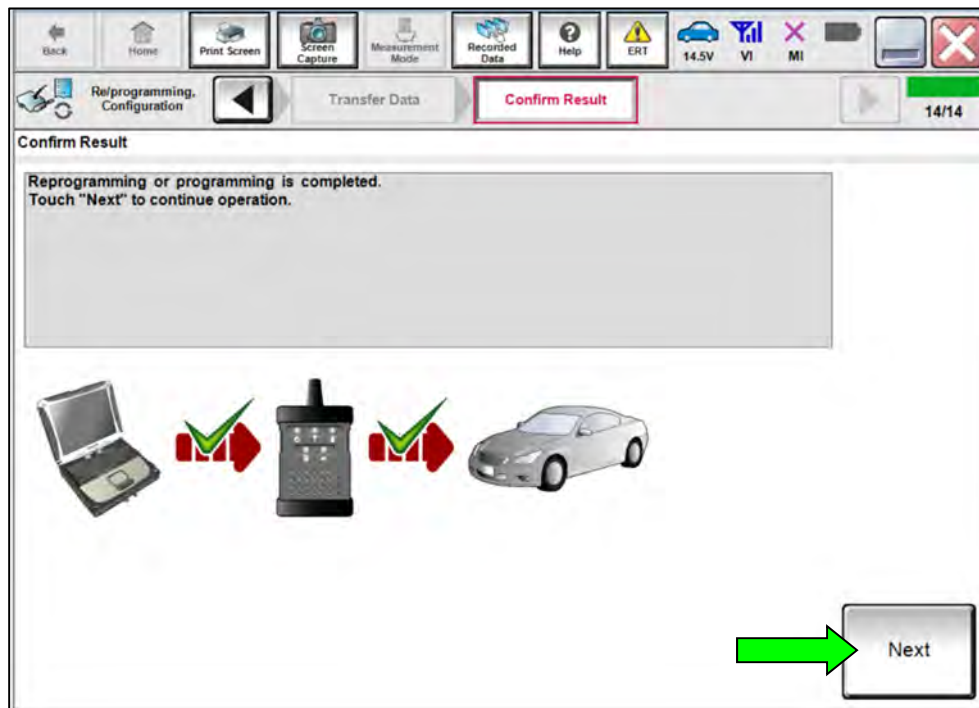

Figure 16
23. Once the screen in Figure 16 displays, the reprogramming is complete. Select **Next**.
- If the screen in Figure 16 does NOT display, indicating that reprogramming did not complete, refer to **VCM Recovery** on page 15.